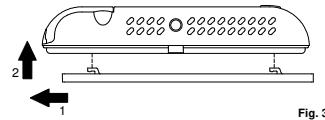

Fig. 3
- Release the plate attached to the thermostat base by pushing it to the left, this way releasing the teeth indicated in Fig. 3.